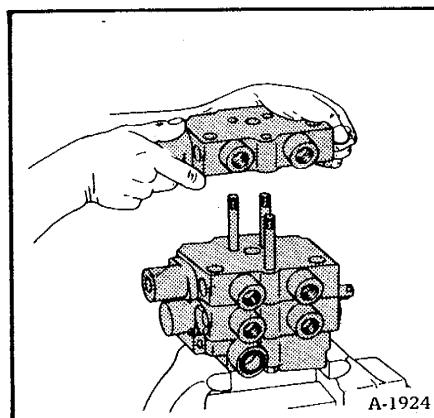

Fig. 2-29 Reassembly of Valve
- (3) Make lubrication of new O-rings with oil and press them into the seal grooves at each end of the valve section.
- (4) Install the bonnet at the rear of the valve section (On lift section, install the snap ring on the detent rod.)
- (5) Install the seal plate at the front end of the valve section.
- (6) Install the load check valve parts, springs and hex plugs. Use new O-rings, lubrication made with oil, on the plugs.
- (7) Install new O-rings into the counter bores on the sides of the valve sections.
- (8) To help in assembly of all the valve sections, put the control valve inlet section on its side in a vise, so that the sections can be installed in their order of assembly (Fig. 2-29).
- (9) After all the control valve sections have been assembled, install the thru bolts and the nuts. Tighten the nuts, evenly, to 20 ft-lbs. (27.2 Nm) torque. Do not overtighten.
- (10) With the control valve in a vise, check the operation of each spool for free movement and centering.